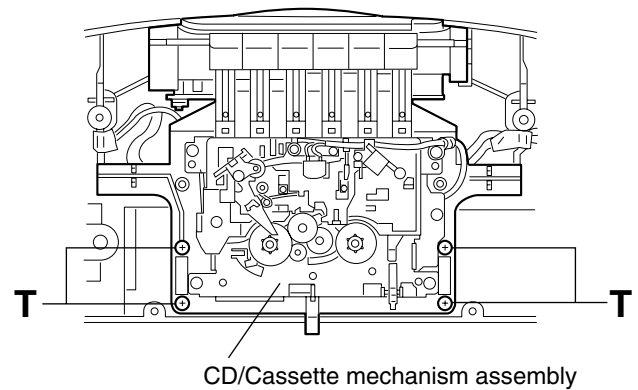

Fig.21
6. Remove the four screws **T** retaining the CD/Cassette mechanism assembly. (See Fig.21.)